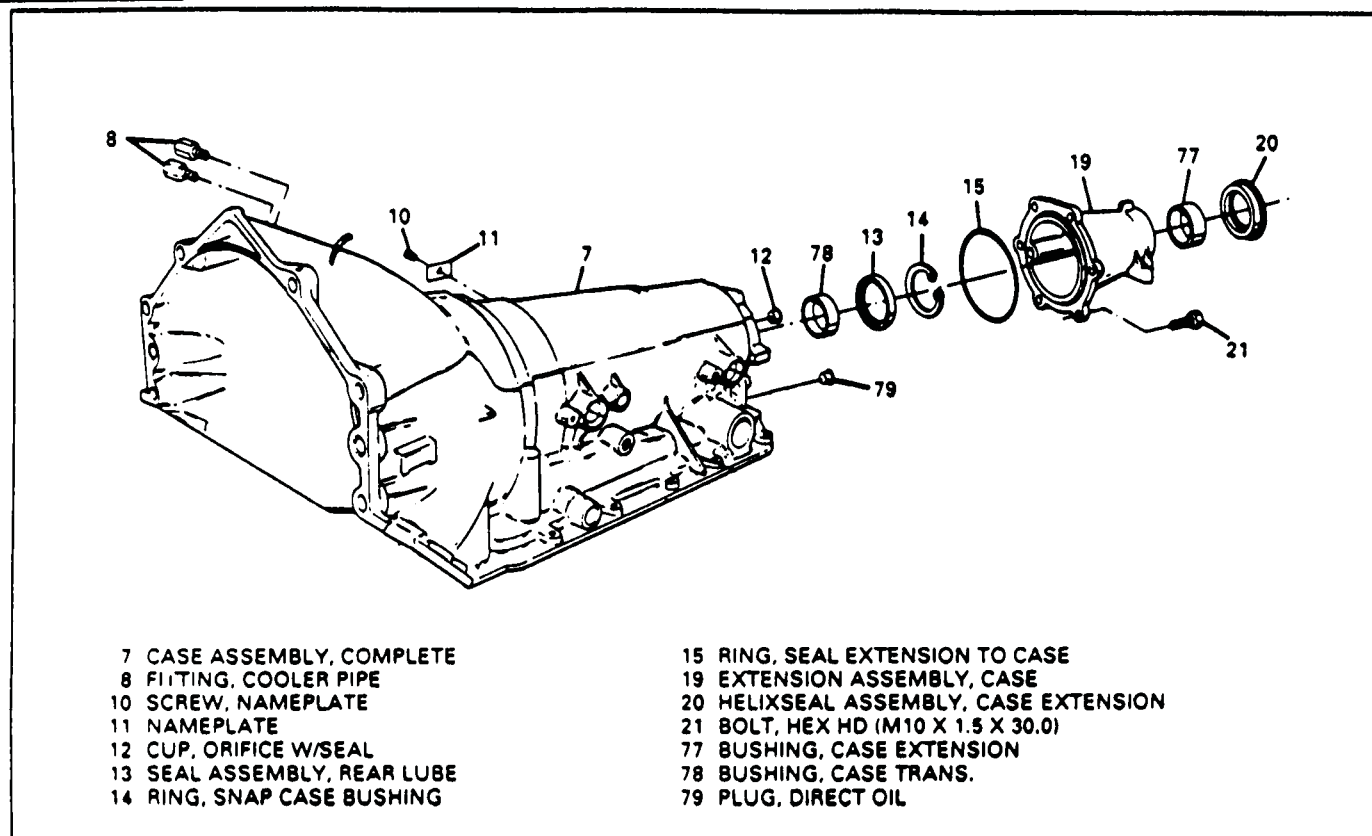

Figure 56
3. Install the snap ring (14) as shown in Figure 56.